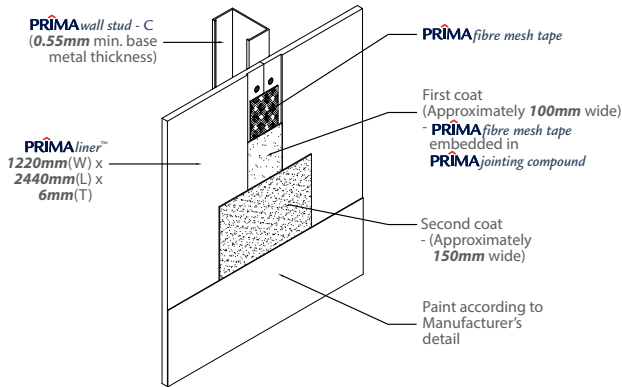
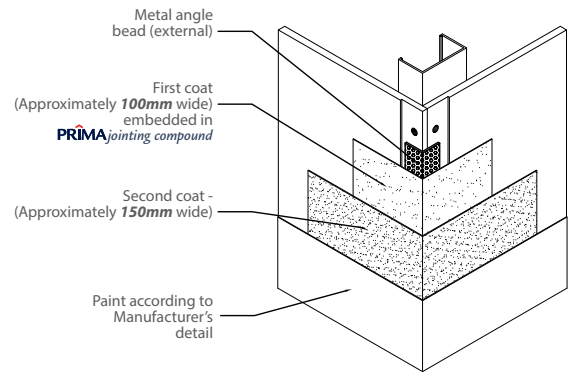

Figure 14: Flush joint detail
Figure 15: Outward flush joint corner
- Refer to Figure 14 for flush joint detail, Figure 15 for outward flush joint corner and Figure 16 for inward flush joint corner.